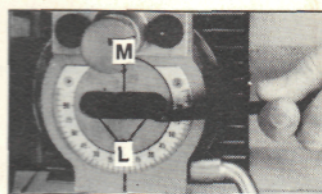

Fig. 16
- (ii) Loosen the two outside allen screws (Fig. 16).